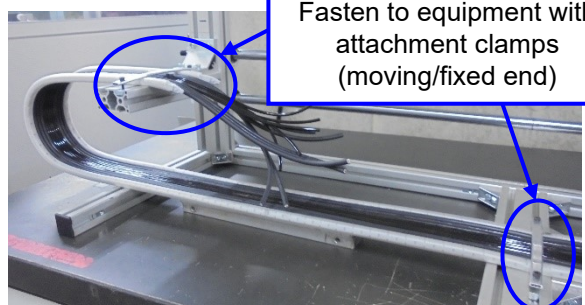

Fig. 4
2. While the FLATVEYOR bent as shown in 1, fasten the moving end and fixed end to the equipment with the attachment clamps (Fig. 4).